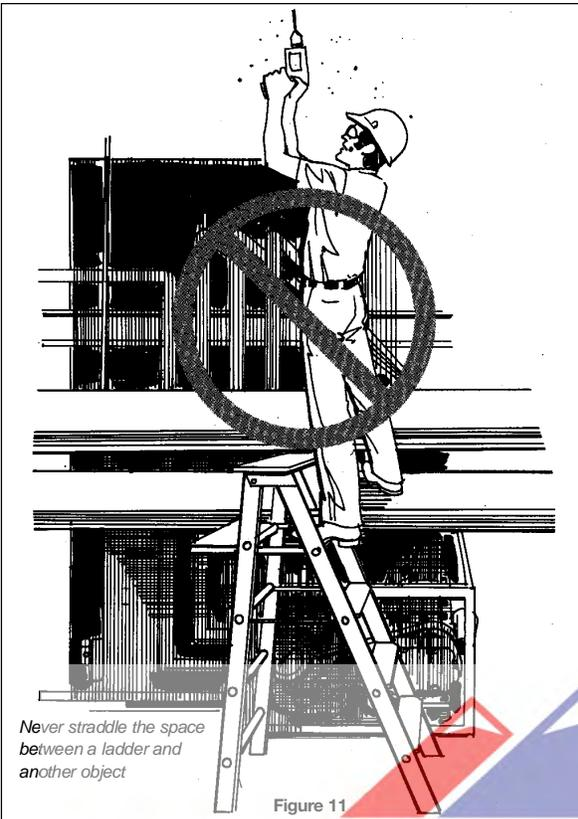

Figure 11
- Never straddle the space between a ladder and another object (Figure 11).